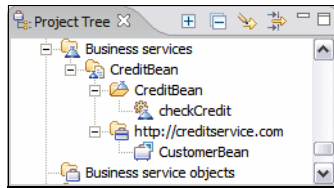

Figure 15-17 Project Tree with Business services
- ▶ The CreditBean appears in the Project Tree under Business services (Figure 15-17).